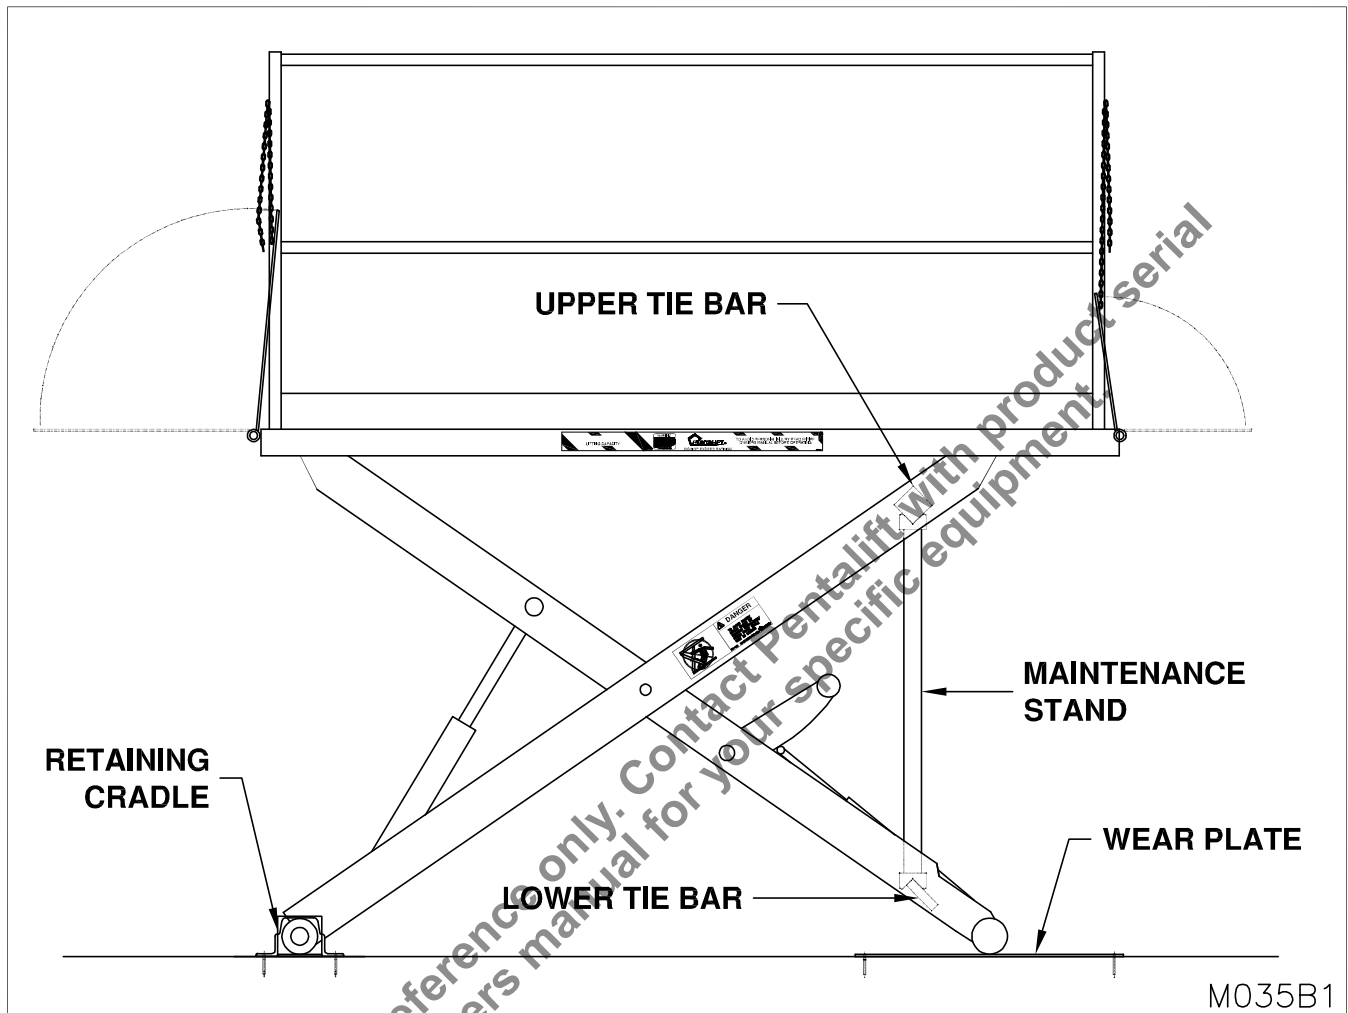

Figure 11. Supporting the Dock Lift for Maintenance
NEVER GO BENEATH THE DOCK LIFT FOR ANY REASON UNLESS THE PLATFORM AND HINGED BRIDGE(S) ARE PROPERLY SUPPORTED (SEE "Figure 11: Supporting the Dock Lift for Maintenance" on page 13) AND THE POWER IS DISCONNECTED, PROPERLY TAGGED AND LOCKED OUT. IT IS THE RESPONSIBILITY OF THE OWNER TO ENSURE THAT NO LOAD OR TRAFFIC IS PLACED ON THE PLATFORM WHILE THE MAINTENANCE STAND IS ENGAGED. THE CONSTRUCTION OF THE MAINTENANCE STAND IS INTENDED TO SUPPORT THE WEIGHT OF THE UNLOADED DOCK LIFT ONLY.
DANGER NEVER GO BENEATH THE DOCK LIFT FOR ANY REASON UNLESS THE PLATFORM AND HINGED BRIDGE(S) ARE PROPERLY SUPPORTED (SEE "Figure 11: Supporting the Dock Lift for Maintenance" on page 13) AND THE POWER IS DISCONNECTED, PROPERLY TAGGED AND LOCKED OUT. IT IS THE RESPONSIBILITY OF THE OWNER TO ENSURE THAT NO LOAD OR TRAFFIC IS PLACED ON THE PLATFORM WHILE THE MAINTENANCE STAND IS ENGAGED. THE CONSTRUCTION OF THE MAINTENANCE STAND IS INTENDED TO SUPPORT THE WEIGHT OF THE UNLOADED DOCK LIFT ONLY.
NEVER GO BENEATH THE DOCK LIFT FOR ANY REASON UNLESS THE PLATFORM AND HINGED BRIDGE(S) ARE PROPERLY SUPPORTED (SEE “Figure 11: Supporting the Dock Lift for Maintenance” on page 13) AND THE POWER IS DISCONNECTED, PROPERLY TAGGED AND LOCKED OUT. IT IS THE RESPONSIBILITY OF THE OWNER TO ENSURE THAT NO LOAD OR TRAFFIC IS PLACED ON THE PLATFORM WHILE THE MAINTENANCE STAND IS ENGAGED. THE CONSTRUCTION OF THE MAINTENANCE STAND IS INTENDED TO SUPPORT THE WEIGHT OF THE UNLOADED DOCK LIFT ONLY.